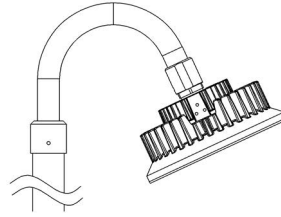

Figure 3
- ☞ Tighten tube locking setscrew to conduit, 1.0 N-m. (Figures 3, 4)